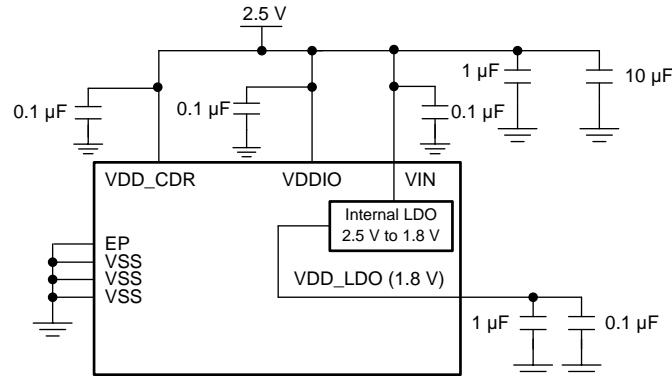
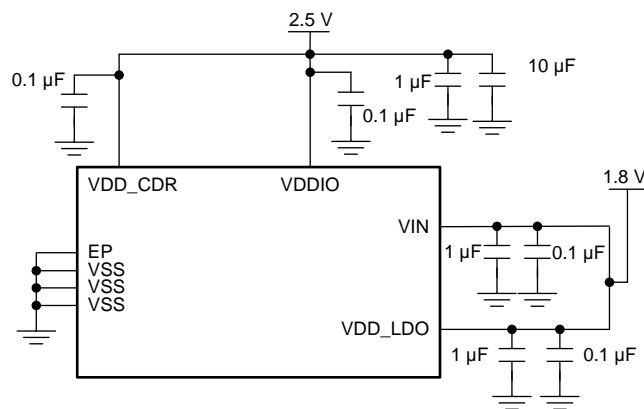

图 27. Typical Connection for Single 2.5 V Supply
图 28. Typical Connection for Dual 2.5 V and 1.8 V Supply
The LMH1226 is pin compatible with LMH1219 (12G UHD cable equalizer with integrated reclocker). Both LMH1219 and LMH1226 devices support Single Supply Mode and Dual Supply Mode as shown in 图 27 and 图 28, respectively.
- **Single Supply Mode (2.5 V):** This mode offers ease of use, with the internal circuitry receiving power from the on-chip 1.8 V regulator. In this mode, 2.5 V is applied to VDD_CDR, VIN, and VDDIO. See Figure 27 for more details.
- **Dual Supply Mode (2.5 V and 1.8 V):** This mode provides lower power consumption. In this mode, 1.8 V is connected to both VIN and VDD_LDO. VDD_CDR, and VDDIO are powered from a 2.5 V supply. See Figure 28 for more details.